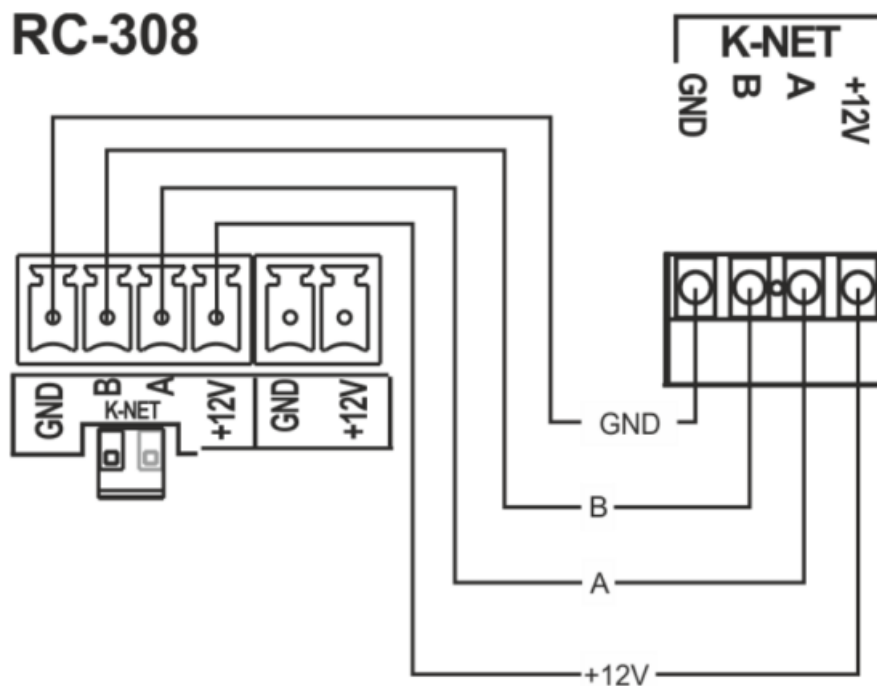

Figure 9: K-NET PINOUT Connection
The K-NET port (9) is wired as shown in Figure 9.